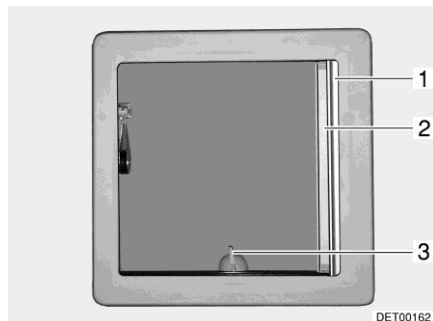
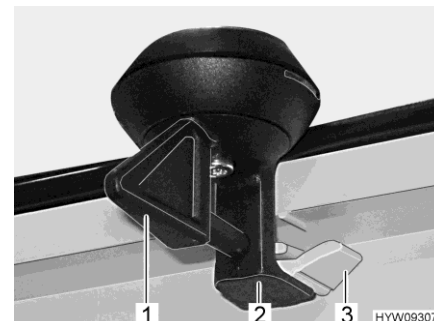

Fig. 75 Hinged skylight
Fig. 76 Lock (hinged skylight)
- Turn the lever (Fig. 75,3 or Fig. 76,1) one quarter turn.
- Turn the lever one quarter turn. The lock (Fig. 76,2) must slide into the bottom catch (Fig. 76,3).
- Pull out Roman shade (Fig. 75,1) and release in the required position. The Roman shade will stay in that position.
- Pull insect screen (Fig. 75,2) out until it engages with the latch on the opposite side.